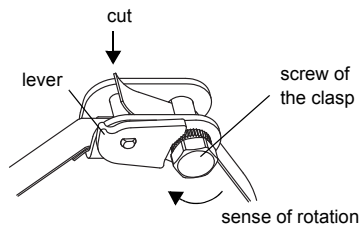

Fig. 9.43: Ratchet clasp with tension strap
- Cut off the protruding tension strap (see Fig. 9.43).
Note! To release the screw and the tension strap, press the lever down (see Fig. 9.43).